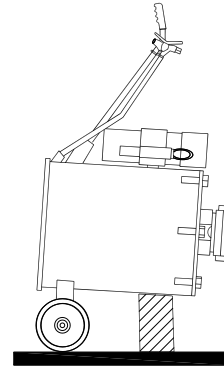

Figure 3.
6. When jack is not in use, tip it forward until it rests on the wheels and use extra support to hold the jack as shown in figure 3. This allows trapped water to drain from inside the cylinder.